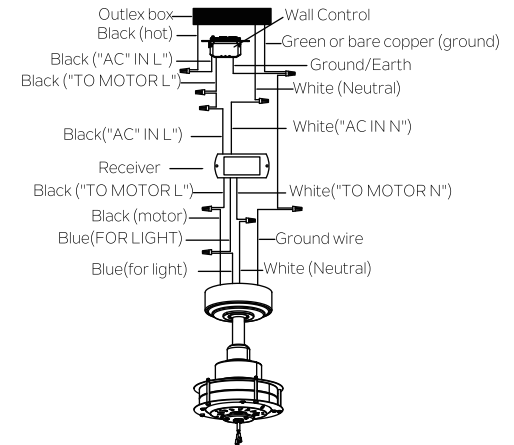

Fig. 13
Step 2. Motor to Receiver Electrical Connections: Connect the BLACK wire from the fan to BLACK wire marked "TO MOTOR L" from the receiver. Connect the WHITE wire from the fan to the WHITE wire marked "TO MOTOR N" from the receiver. Connect the BLUE wire from the fan to the BLUE wire marked "FOR LIGHT" from the receiver. Secure all the wire connections with the plastic wire connectors provided. (Fig. 13)
Step 3. Remote Receiver to Outlet Box Electrical Connections: Connect the BLACK (hot) wire from the ceiling to the BLACK wire marked "AC IN L" from the wall control. Connect the WHITE (Neutral) wire from the ceiling to the WHITE wire marked "AC IN N" from the receiver. Connect the BLACK (To Motor L) wire from the wall control to the BLACK wire marked "AC IN L" from the receiver. Secure the wire connections with the plastic wire connectors provided. (Fig. 13)
Step 4. If your outlet box has a ground wire (green or bare copper) connect it to the fan ground wires : otherwise connect the fan ground wire to the mounting bracket. Secure the wire connection with a plastic connectors provided. After connecting the wires, spread them apart so that the green and white wires are on one side of the outlet box and black and blue wires are on the other side. (Fig. 13)